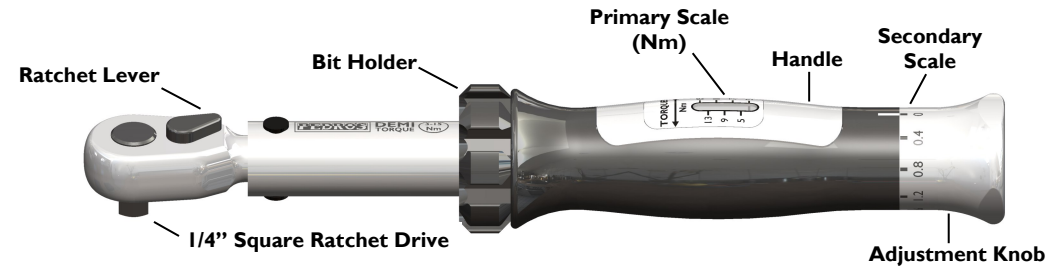

FIGURE 1
1. Holding the handle in one hand, locate the adjustment knob and pull with your second hand to unlock. See Figure 1.